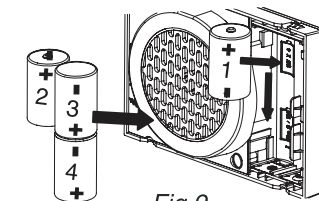

Fig 9
Remove battery compartment cover and insert three LR6 (AA) alkaline batteries as shown in Fig 9.
First remove decorative cover and replace with 3 x LR14 (C) alkaline batteries. Fig 9